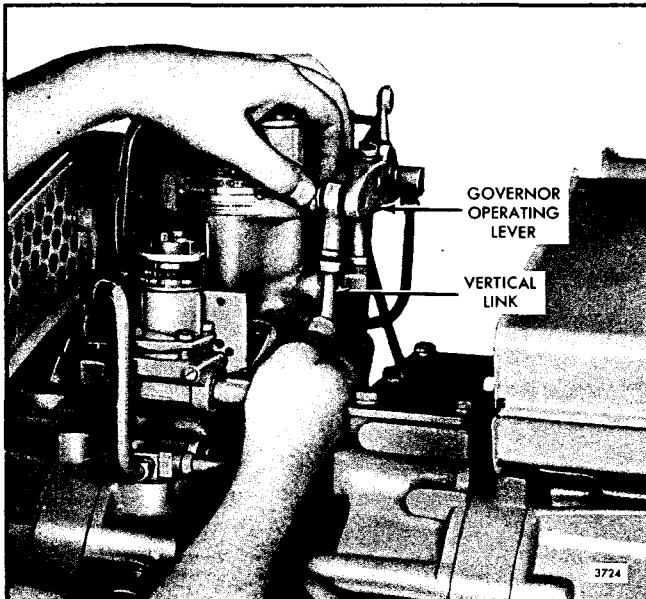

Fig. 7 - Adjusting Vertical Link
17. Adjust the length of the vertical link so that the bolt holes of the levers and the centers of the rod end bearings are lined up (Fig. 7).